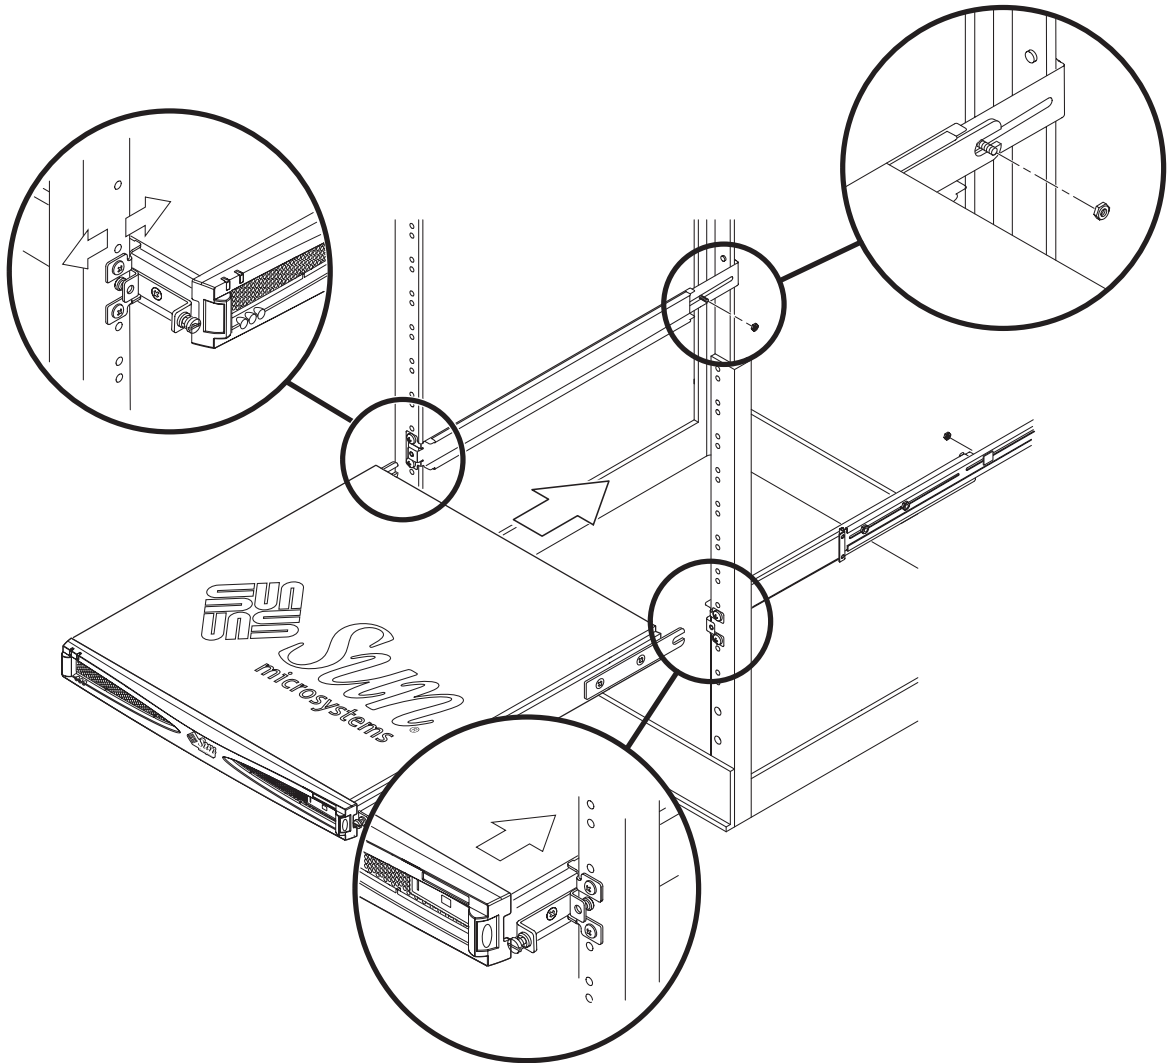

FIGURE 3-8 Sliding the Sun StorEdge S1 Array and Attaching It Into a Rack
12. **Slide the Sun StorEdge S1 array into the rack as far as it goes (FIGURE 3-8).**
14. Slide the stud from the stud plate as far as it can go into the open slot on the side bracket that is attached to the back of the array (FIGURE 3-8).